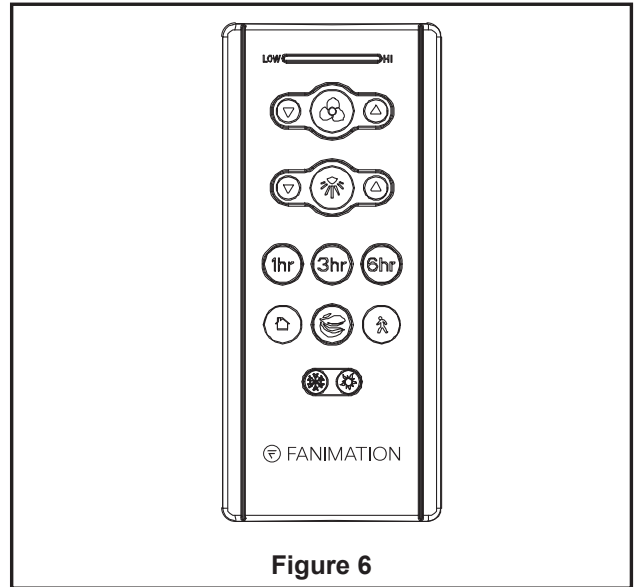

Figure 6
5. If your receiver slid out of the bracket at all while wiring your fan, slide it all the way into the hanger bracket, taking care not to pinch the wires. The canopy comes up to cover the receiver and hanger bracket. (Figure 6)
6. Assemble the cover-switch cup assembly to the inner-switch cup by twisting in a clockwise direction. (Figure 6)
8. Remote functions: (Figure 6)